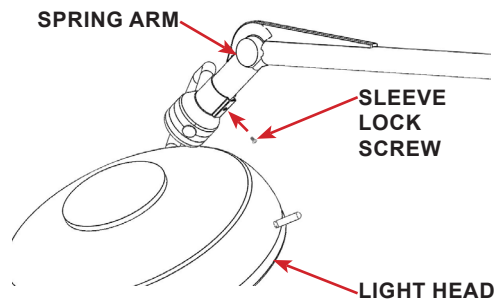

FIGURE 2.43 - Retainer Tab
STEP 8: Secure the sleeve by screwing in the phillips head screw and lock washer. Refer to FIGURE 2.43